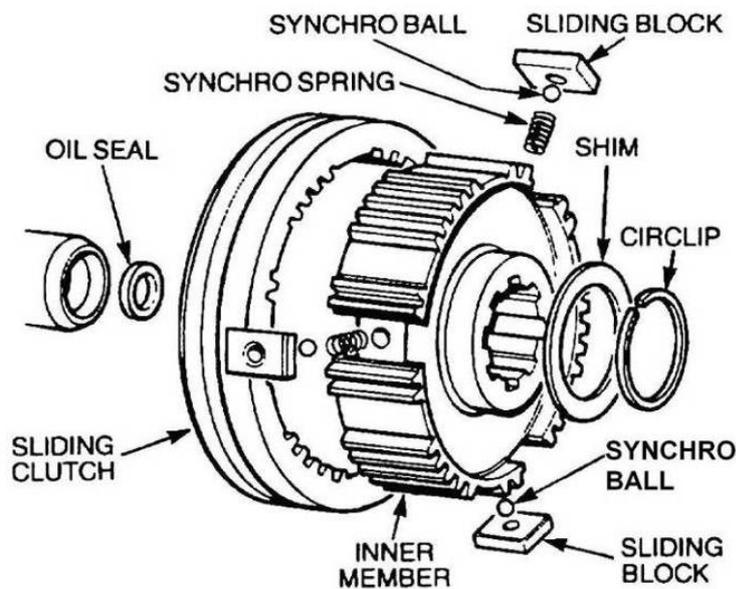

Figure 174 Third and Fourth Gear Synchromesh - Exploded View
- hh. Remove the third and fourth gear synchromesh assembly (Figure 174). Discard the circlip and bearing.